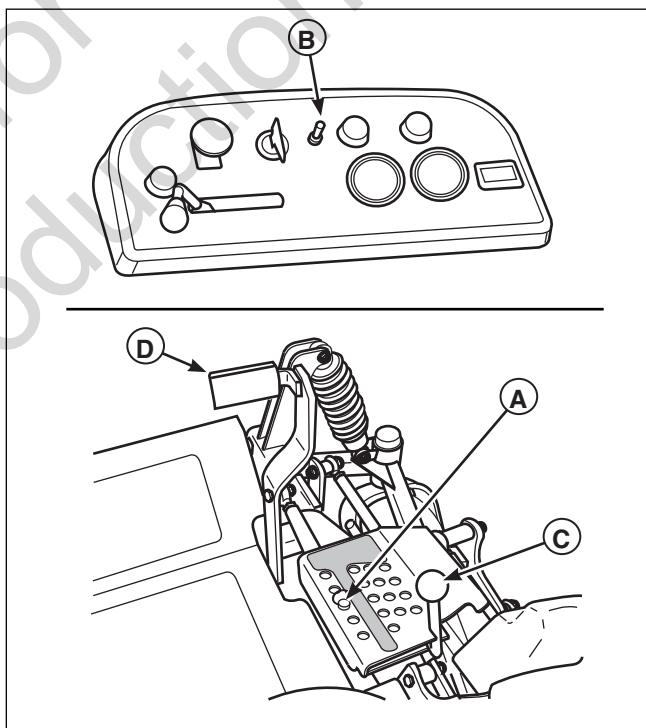

**Figure 34. Parking Brake Adjustment**
2. Locate the upper brake spring (A, Figure 34) through the opening under the fuel tanks.
4. If adjustment is required, disengage the parking brake and turn the adjustment nut (B).